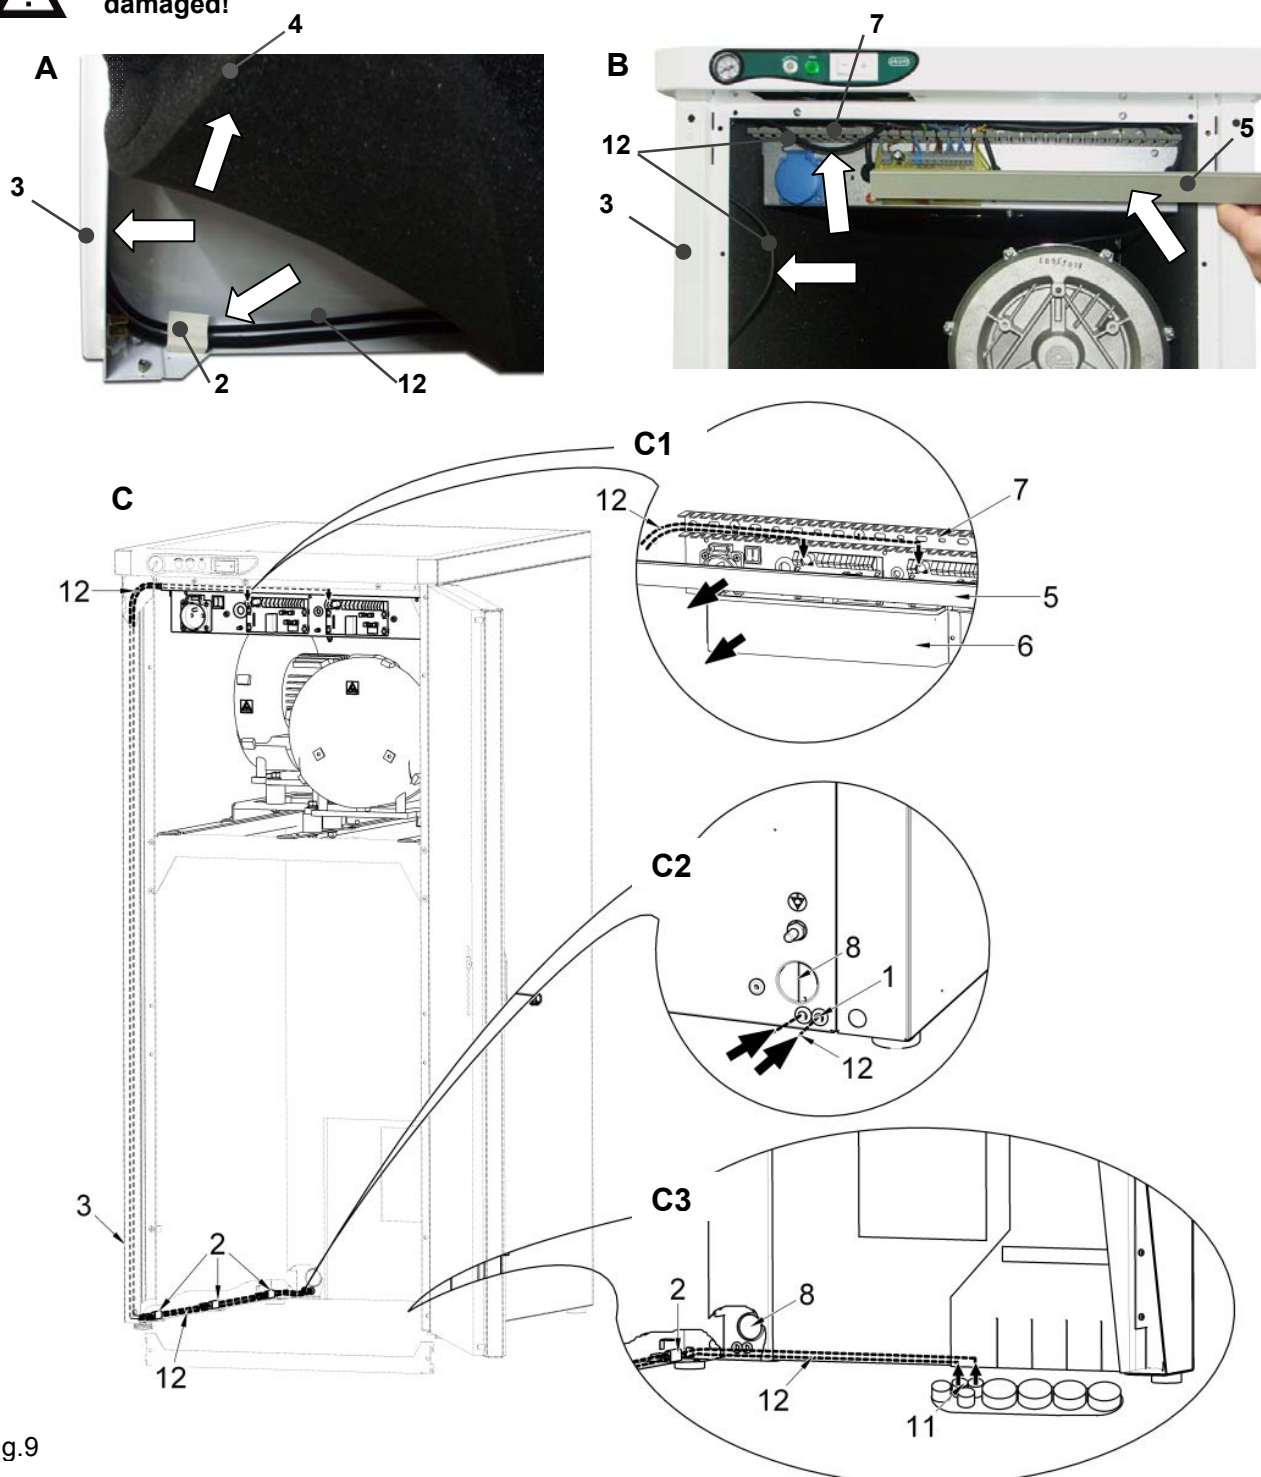

Fig.9
(Fig.9)
Lace the cord (12) of aspirator control (24V AC/DC) through the hole in the rear part of the casing (1) (Fig.9-C2) or via the piping in a floor (11)(Fig.9-C3), fix with clips (2) located on the left panel of the casing in its bottom part and lead it via a hollow (3) in the front part of the casing (Fig.9-A). Prior to putting the cord into clips it is necessary to move the sound insulation material (4) in the corners of the casing. Remove the cover of an electric distribution channel (5) and cover of electric panel (6). Connect the cord for aspiration control to the terminal of printed circuit board according to the wiring diagram, insert it to the hollow (3) in the front part of the casing, behind the sound insulation material at the side of the casing (4) and to the electric distribution channel (7) (Fig.9-B).